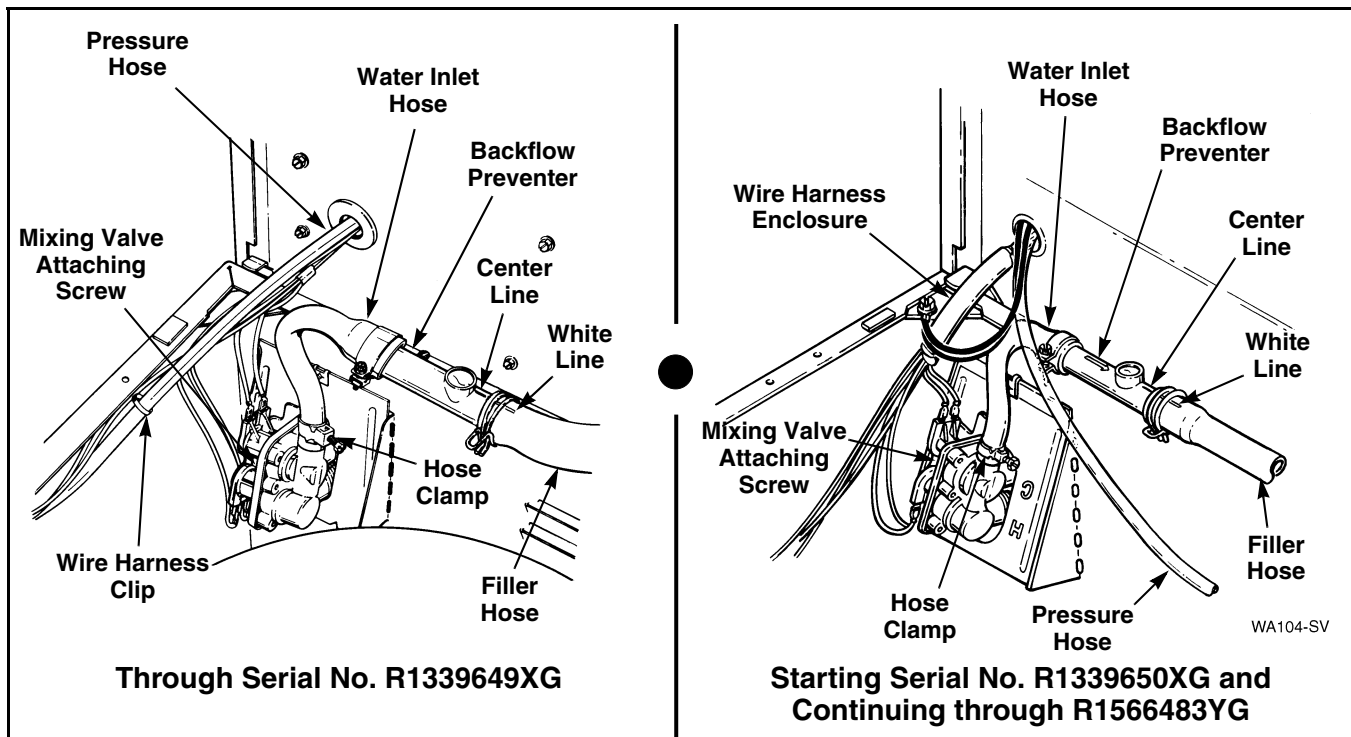
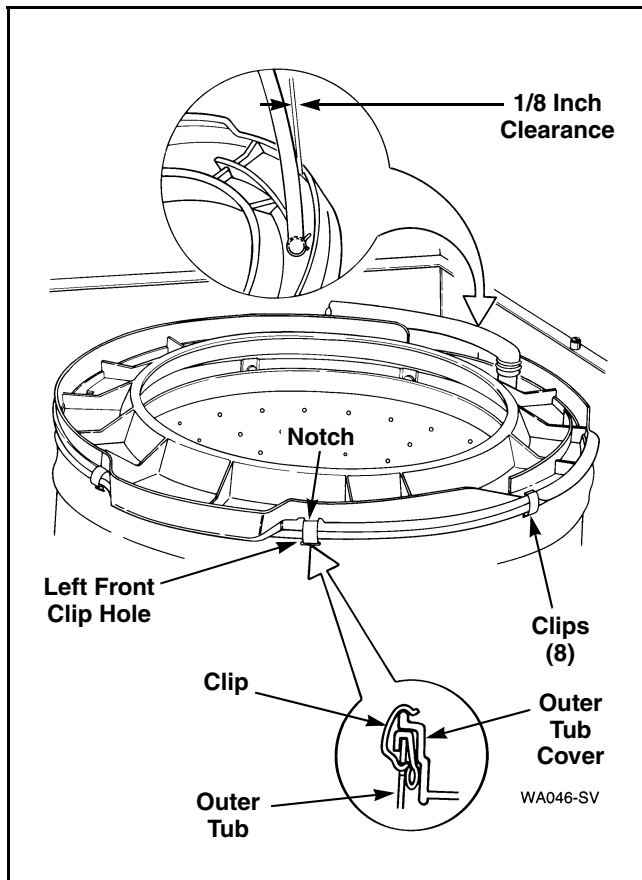

Figure 26
Figure 27
- Remove screw holding mixing valve to mounting bracket at rear of washer cabinet. Refer to *Figure 26*.
- Pull mixing valve out toward front of washer far enough to permit disconnecting water inlet hoses from mixing valve. Refer to *Figure 26*.
- Disconnect filler hose from backflow preventer. Refer to *Figure 26*.
NOTE: When installing filler hose, white line on hose must be aligned with center line of backflow preventer. Refer to *Figure 26*. A 1/8 inch clearance is necessary to prevent the hose from rubbing on the flange of the tub cover. Refer to *Figure 27*. Loosen hose clamp and move hose to obtain the proper clearance.
- d. Remove eight clips holding outer tub cover to tub, lift cover off tub and set beside washer cabinet. Refer to *Figure 27*.
NOTE: When installing outer tub cover, always use a new cover gasket. Lubricate the gasket with liquid soap to aid in assembly. Cover must be placed on outer tub so notch on top edge of outer tub cover is directly over left front clip hole in tub. Refer to *Figure 27*. Starting with this hole, place each spring clip in its respective hole and snap in place. Refer to *Figure 27* for proper clip installation.
- Disconnect filler hose from backflow preventer. Then remove the eight clips holding cover to outer tub. Refer to *Figure 27*.
NOTE: When reinstalling filler hose, white line on hose must be aligned with center line of backflow preventer. Refer to *Figure 26*. A 1/8 inch clearance is necessary to prevent the hose from rubbing on the flange of the tub cover. Refer to *Figure 27*. Loosen hose clamp and move hose to obtain the proper clearance.
NOTE: When installing outer tub cover, lubricate the cover gasket with liquid soap to aid assembly. Cover must be placed on outer tub so notch on top edge of outer tub cover is directly over left front clip hole in tub. Refer to *Figure 27*. Starting with this hole, place each spring clip in its respective hole and snap into place. Refer to *Figure 27* for proper clip installation.